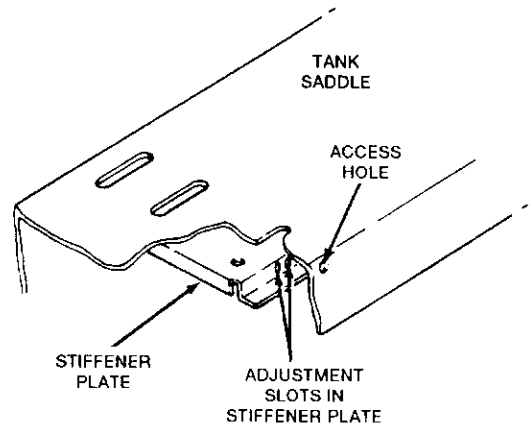
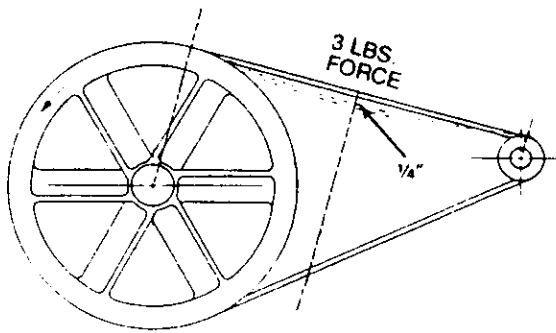

Figure 9
Figure 10
- 5. Push the engine back into regular position. Achieve belt tension by inserting a large screwdriver into the hole in the saddle which is located on the belt guard side of the saddle below the engine and prying the stiffener plate back. See figure 9. Proper tension is approximately 1/4" belt deflection measured mid way between the pulley and flywheel when a 3-pound weight or equivalent finger pressure is applied at this point. See figure 10.